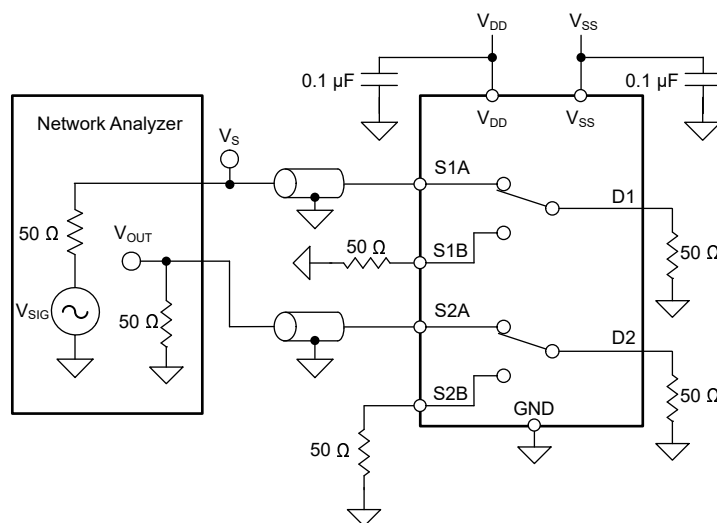

Figure 7-16. Inter-Channel Crosstalk Measurement Setup
2. Inter-channel crosstalk ($X_{\text{TALK(INTER)}}$): the voltage at the source pin (S_x) of an on-switch input, when a 1- V_{RMS} signal is applied at the source pin of an on-switch input in a different channel, as shown in Figure 7-16.